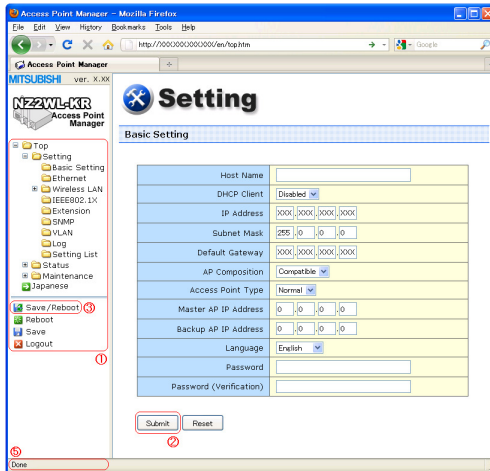

Figure 3.3. Setting by Access Point Manager (KR)
Select “Setting” in the left-hand menu ((1) in Figure 3.3) and further select the desired setting items from the opened menu. Information such as setting items will be displayed in the right-hand frame.
Click “Submit” ((2) in Figure 3.3) after changing settings on each page to temporarily save the settings in this product.
The settings become enabled when the product is restarted after all the setup procedure is completed and the settings are stored. Click “Save/Reboot” ((3) in Figure 3.3) on the left-hand menu.
"Time Out Error" will occur when there is no operation for approximately five minutes. The indicator (a bar drawn with ".") on the status bar ((5) in Figure 3.3) represents the approximate time for timeout^{*1}. The number of "." is gradually decreased and all "." disappear before timeout.